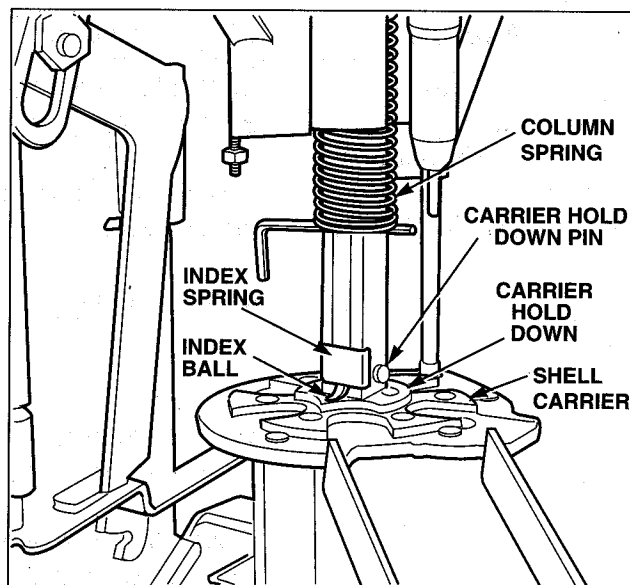

Figure 49
4. Raise the column spring and place a pin through the hole in the column. Also remove the index spring and ball along with the carrier hold down pin, Figure 49.